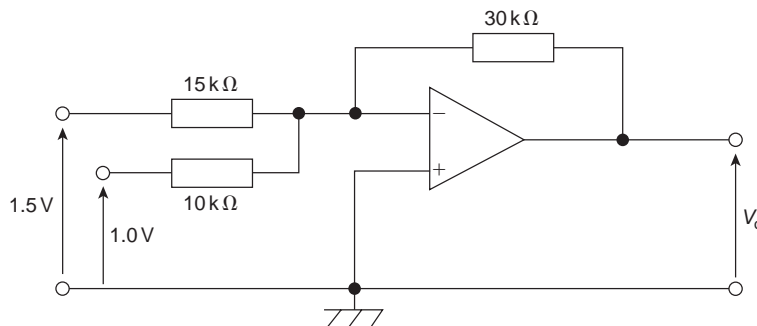

Figure RT5.2
- In the differential amplifier shown in Fig. RT5.2, determine the output voltage, V_o , when:
- A filter section is to have a characteristic impedance at zero frequency of $600\ \Omega$ and a cut-off frequency of 2.5 MHz. Design (a) a low-pass T-section filter and (b) a low-pass π -section filter to meet these requirements. (6)
- Determine the cut-off frequency and the nominal impedance for a high-pass π -connected section having a 5 nF capacitor in its series arm and inductances of 1 mH in each of its shunt arms. (4)